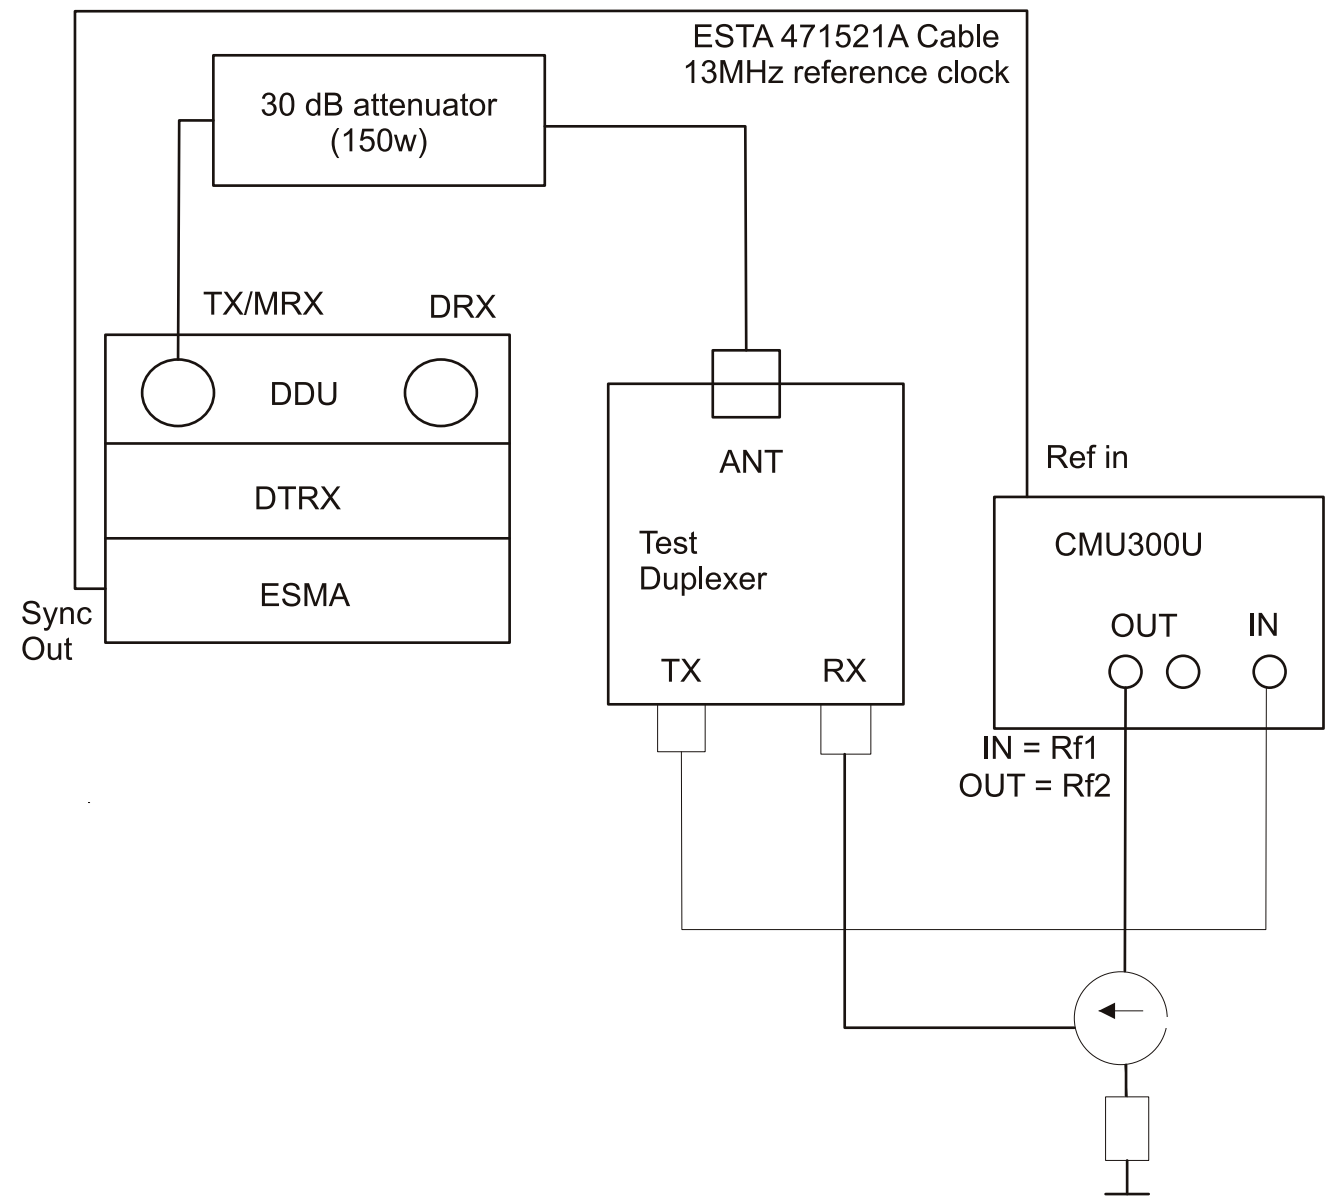
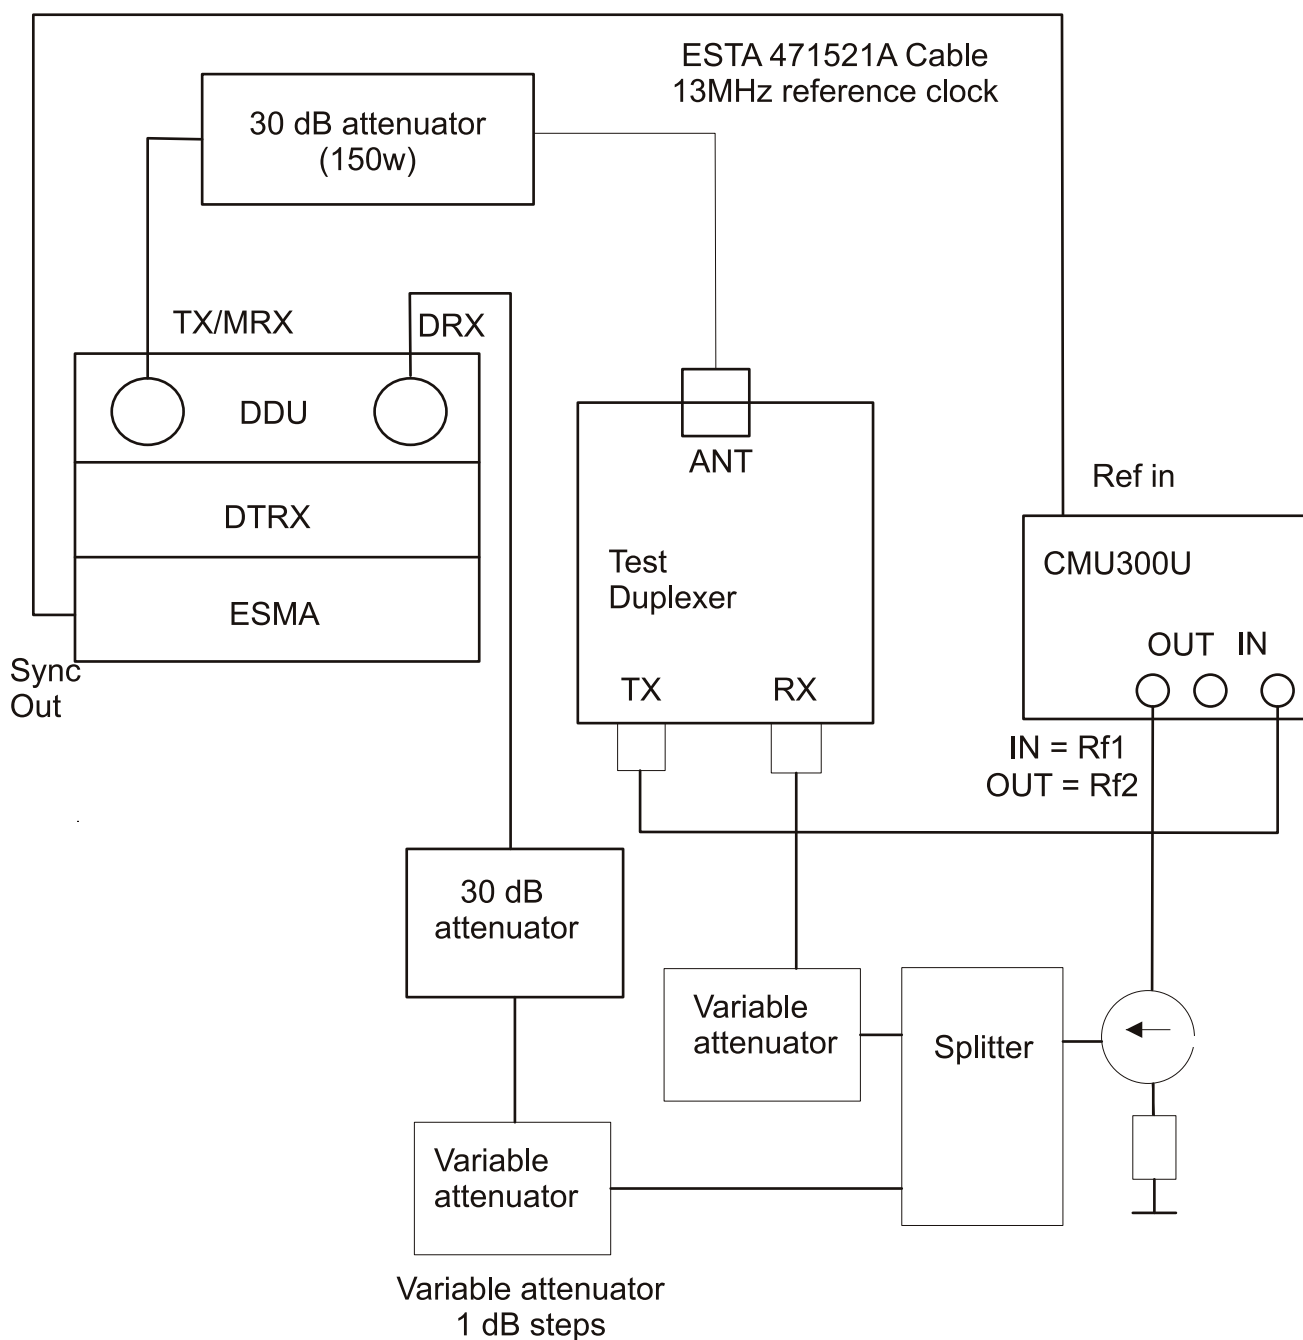

Figure 18 Setup for Single RX branch measurement (Main Only)
Figure 19 Setup for combined RX branch measurement (Main or DIV or Combined)
- i** Do not use smaller than 30db attenuators between BTS and CMU to prevent measurement equipment damage in any situation (as shown in Figure 18 Setup for Single RX branch measurement \(Main Only\) and Figure 19 Setup for combined RX branch measurement \(Main or DIV or Combined\)).